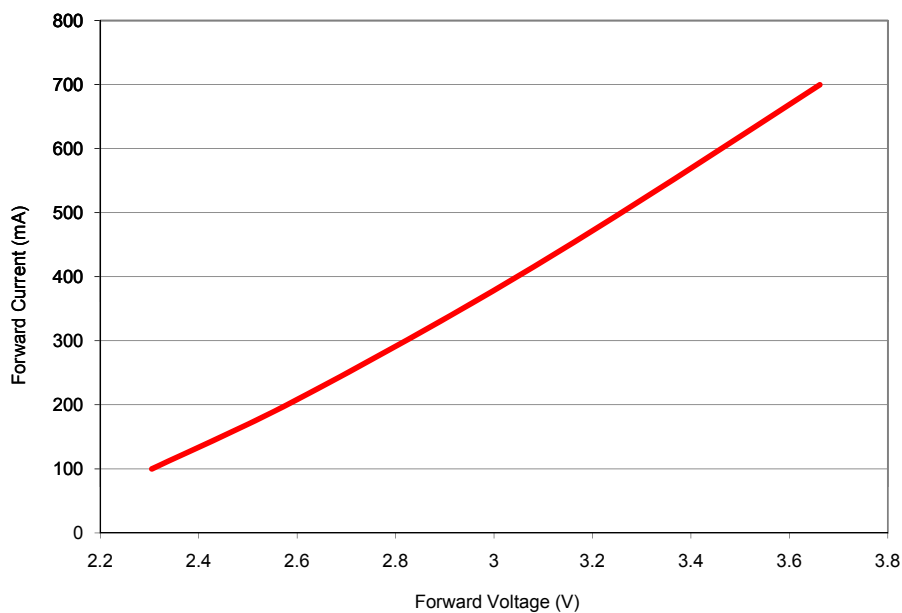

Figure 8. Relative luminous flux vs. forward current.
* Dynamic resistance is the inverse of the slope in linear forward voltage model for LEDs. See figures 8 and 9.
2. Dynamic resistance is the inverse of the slope in linear forward voltage model for LEDs. See figures 8 and 9.